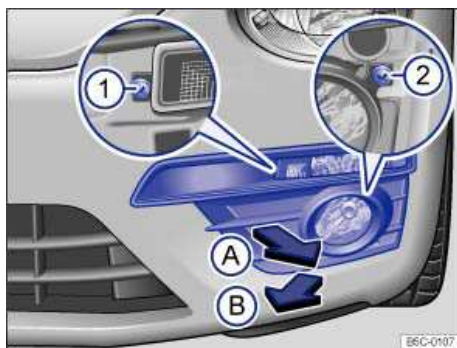
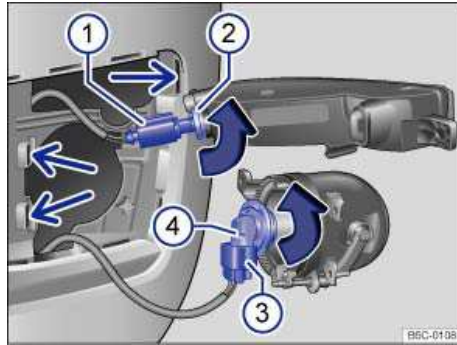

Fig. 175 In the left side of the front bumper: Removing the headlight.
Fig. 176 Replacing the bulb in the headlight.
Front turn signal ⇒ fig. 176 (2)	Fog light / cornering light (4)
2.	Starting at the inside, pull the cover forward slightly by the fins until the retainers release ⇒ fig. 175 (arrow (A)).
3.	Pull the cover out of the side mounts in the direction of the arrow (B).
4.	Remove the screws (1) and (2) using the screwdriver in the vehicle tool kit
5.	Tilt the light forward slightly and remove it from the side mounts ⇒ fig. 176 (small arrows).
6.	Release the connector (1) and disconnect it.	Release the connector (3) and disconnect it.
7.	Turn the bulb holder (2) in the direction of the arrow until it stops and remove it toward the rear with the bulb.	Turn the bulb holder (4) in the direction of the arrow until it stops and remove it toward the rear with the bulb.
10.	Attach the connector (1) to the bulb holder (2). The connector must latch with a “click.”	Attach the connector (3) to the bulb holder (4). The connector must latch with a “click.”
12.	Tighten the screws ⇒ fig. 175 (1) and (2) with the screwdriver.
13.	Beginning at the outside, insert the cover into the bumper opposite the direction of the arrow (B).